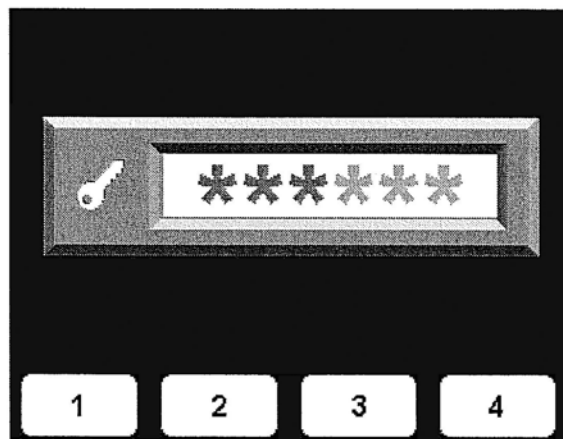

Figure 1-3
2. Press button 2 for the pass code screen (see Figure 1-3).